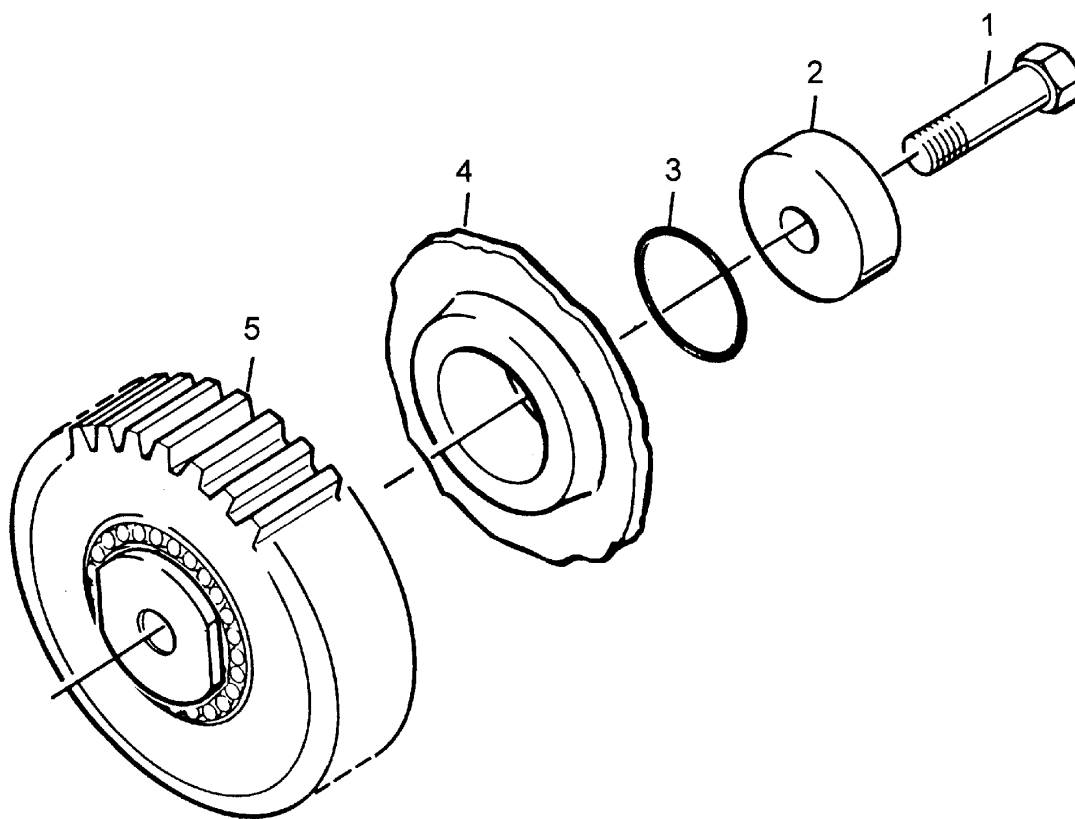

Fig. 7C.47. Reverse Idler Gear Installation
Clutches, Shaft and Countershaft (Refer to Fig. 7C.6)
52. With rear cover (1) placed in a horizontal position as showed in Fig. 7C.48.and bearing cups lightly greased and pressed solidly into their respective bores and against their shoulders, attach a hoist to the eyebolt M12 range clutch assy (3) and lower the shaft on cover (1). Do not set the shaft all way down.
53. Install shafts (2 and 5) on cover (1) as shown in Fig. 7C.48 and lower shaft (3) all the way down. Remove the hoist and eyebolt.
54. Before baffle installation place the magnet (38) in the baffle (37). Position baffle (37) on cover (1) and secure it with the five bolts and washers. Torque the bolts with washer to $106 \pm 10\%$ [Nm]. To secure one of the bolts a long extension with a swivel adapter can be inserted in the baffle opening as shown in Fig. 7C.49.